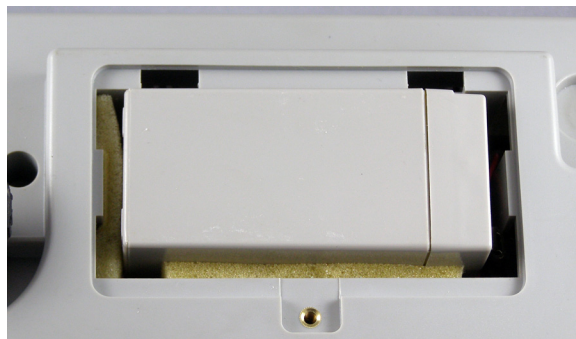

Figure 2.3 Battery in place with padding
3. Wrap the supplied foam padding around the battery and place in the compartment as shown. Replace the battery cover and tighten the screw. See Figure 2.3.